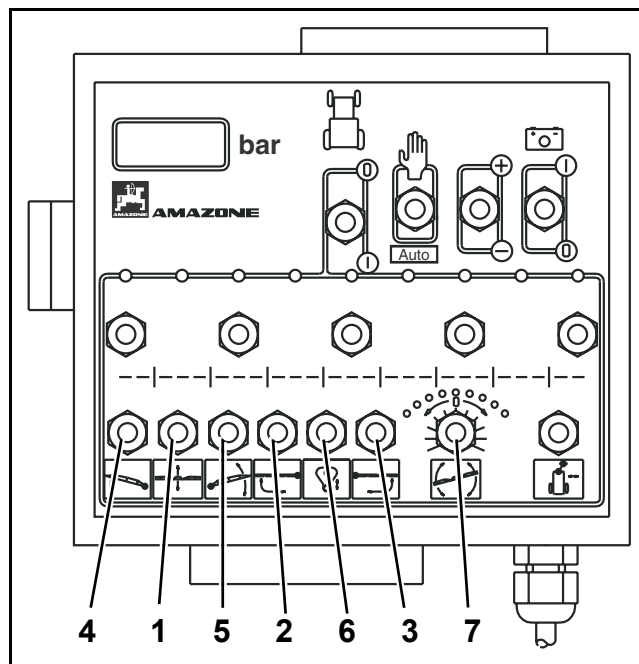

Fig. 114
- Unlock and lock the swing compensation from the transport position via the key (Fig. 114/6).